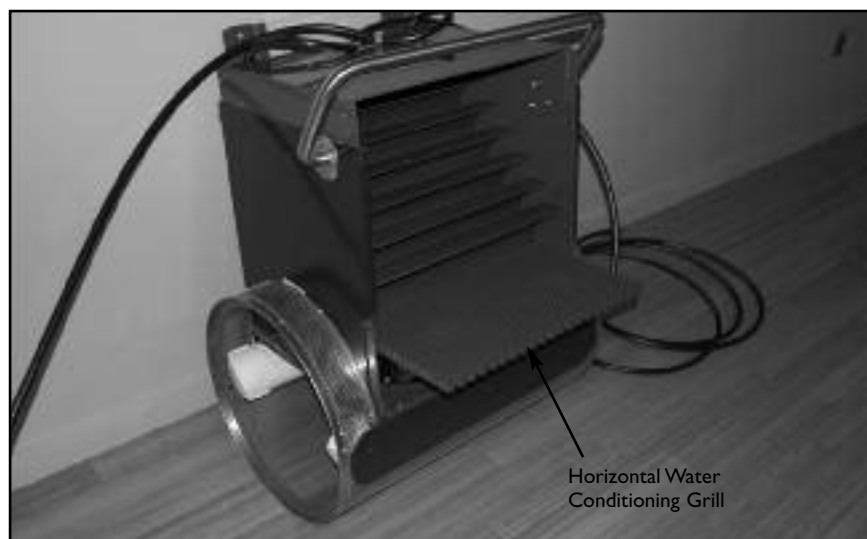

Fig. 9.8
- 9.11** Slide the horizontal water-conditioning grill back into its track inside the housing. The horizontal grill is the wider of the two grills (Fig 9.8).